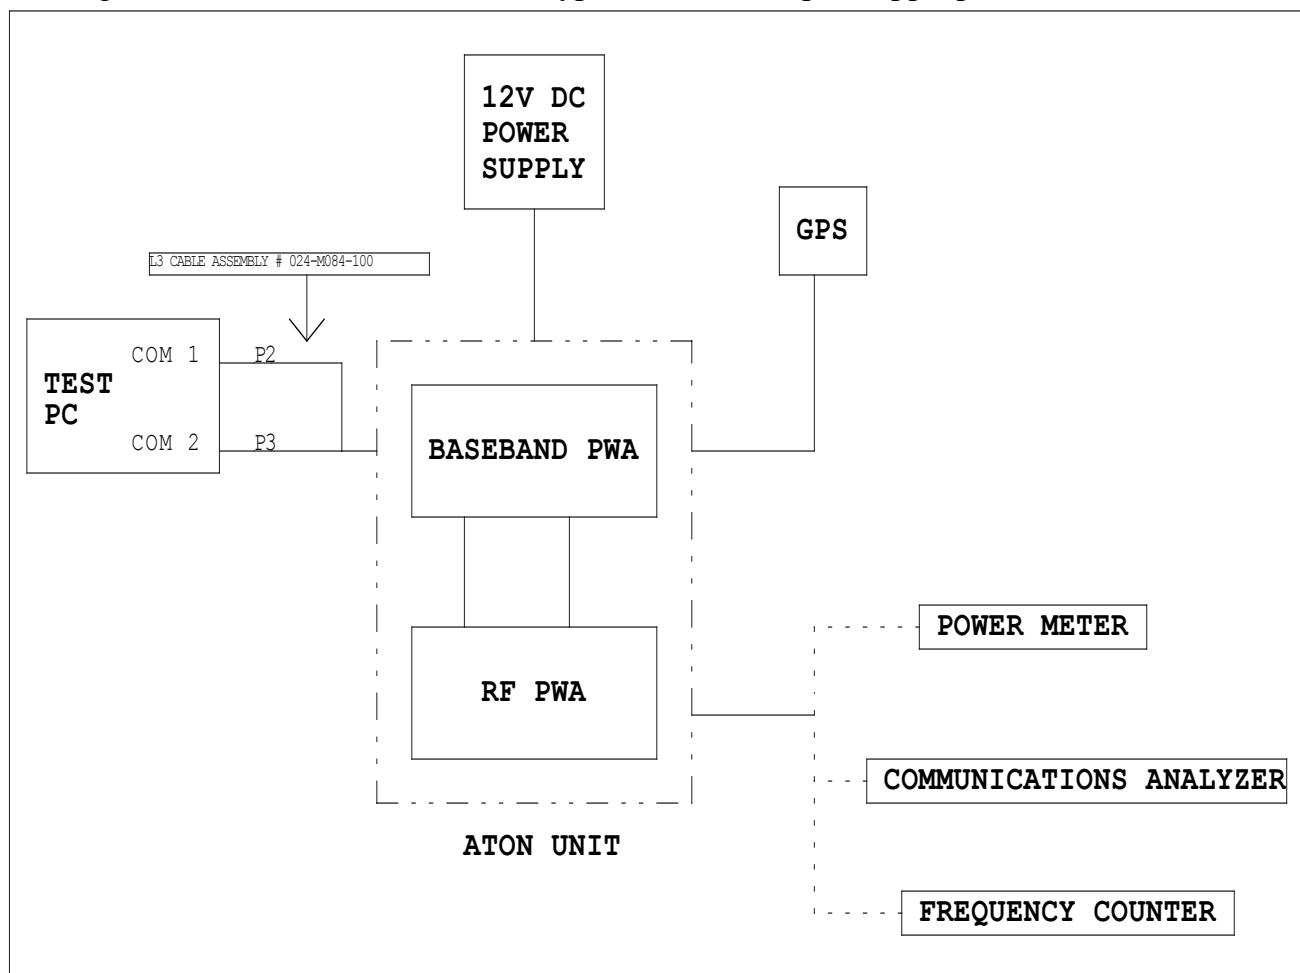
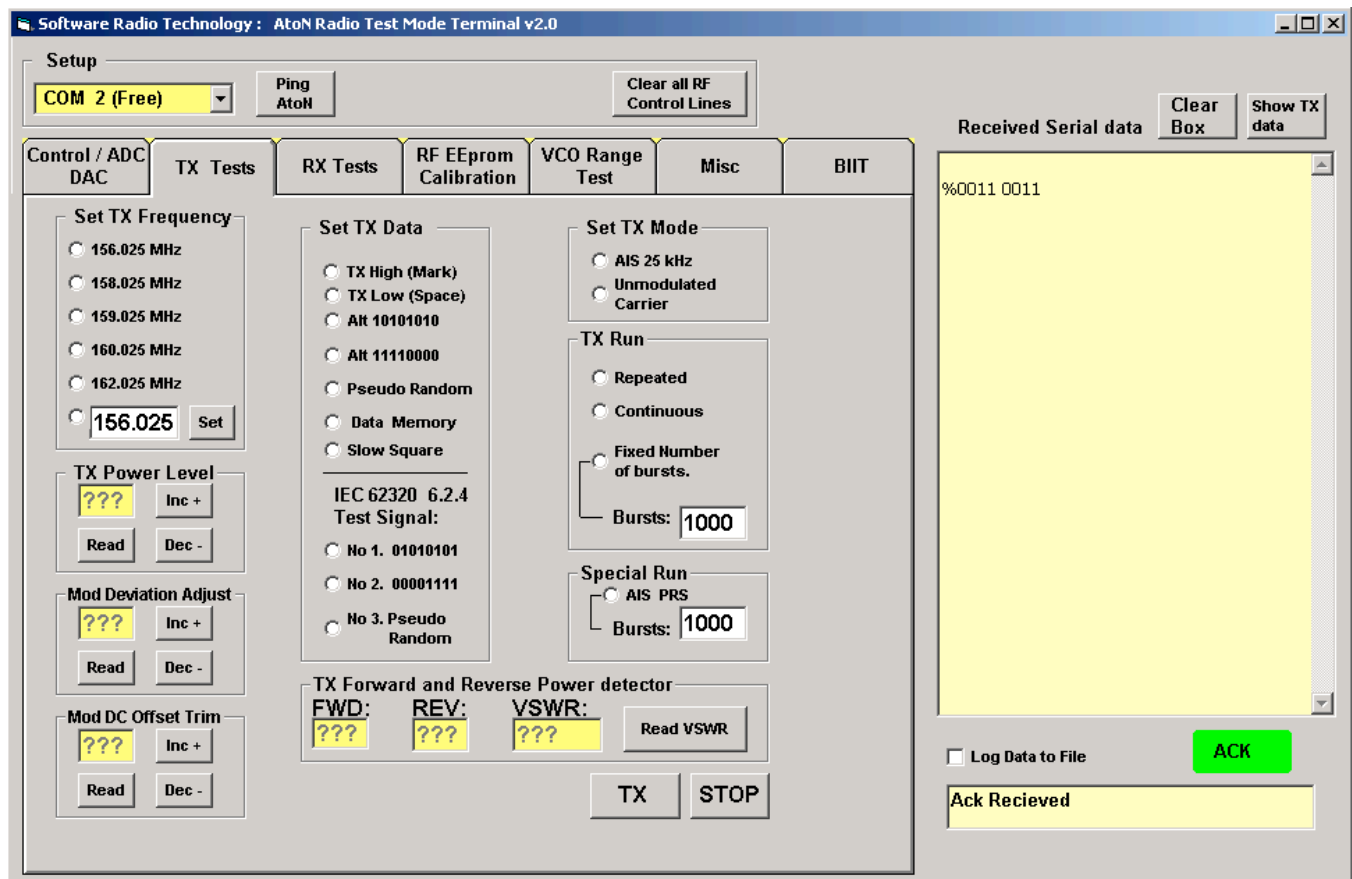

Figure 2
Figure 3
1. Configure the test set up per Figure 2 (**Note: do not connect the GPS signal to the UUT at this time**) and power on the UUT. Make sure the ARM is running and updating, and following the process in Appendix “B” release the DSP from Reset by typing “T”, “2”, “E” in the ARM HyperTerminal screen. Open the “Radio Test Mode Software”; connect to the appropriate Comm. Port, and click on the “Ping AtoN” button. If successful communications with the UUT has been established an acknowledgement message should appear in the received serial data window. At this point the Test software is ready for use. (see Figure 3 below) Connect the test cable from the RF Type “N” connector of the UUT to the FSEA30-B7 analyzer via an inline power meter (configured to measure FWD PEP Peak Envelope Power) utilizing a 30 dB pad on the input of the FSEA30-B7. Configure the test equipment accordingly to measure transmit frequency, deviation, and output power.